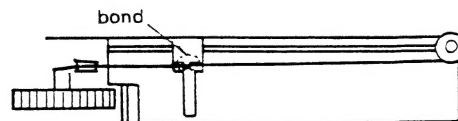

Fig. 14
5. Fix the Radio dial pointer on the string with bond as shown in Fig. 14.